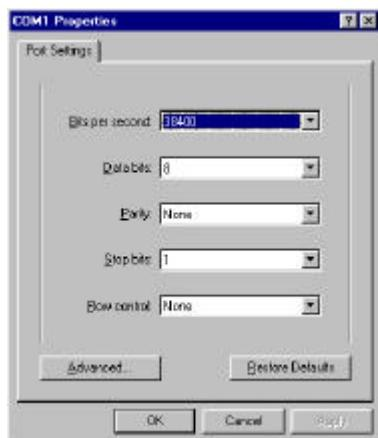

Figure 4-1: Hyper Terminal Application COM Port setting Values
The definition of the various setup values is performed by connecting a computer with a built-in Hyper Terminal application to the MediaRacer® 100 unit. Power on the computer and define the Hyper Terminal application COM port setting values as follows (see Fig 4-1):
2. Verify that the default values for Hyper Terminal Port setting are as shown in Fig 4.1.
4. During the rebooting process press the space bar to start the service software. When the main menu of the MediaRacer® Service Software (Fig 4-1) is displayed, the user can change default values and configure the MediaRacer® 100 unit according to his own specifications.